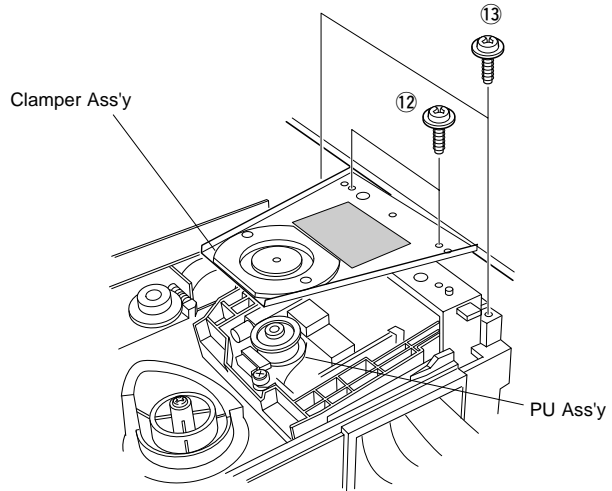

Fig. 7
Remove 2 screws ( 12 ) in Fig. 7.
- a. Remove 2 screws ( 13 ) in Fig. 7.